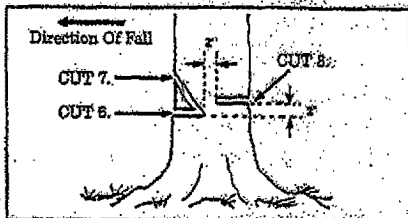

Figure 20
NOTE: If the tree has large buttress roots, remove them before making the notch. Cut into the buttresses vertically, then horizontally. Figure 20.
- a. Make the notch cut. Figure 20.